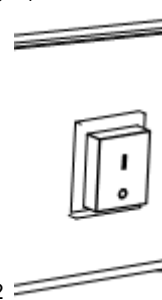

Figure.2
- f. Turn the power switch to position I and check that the fan starts running correctly. (Fig 2.)